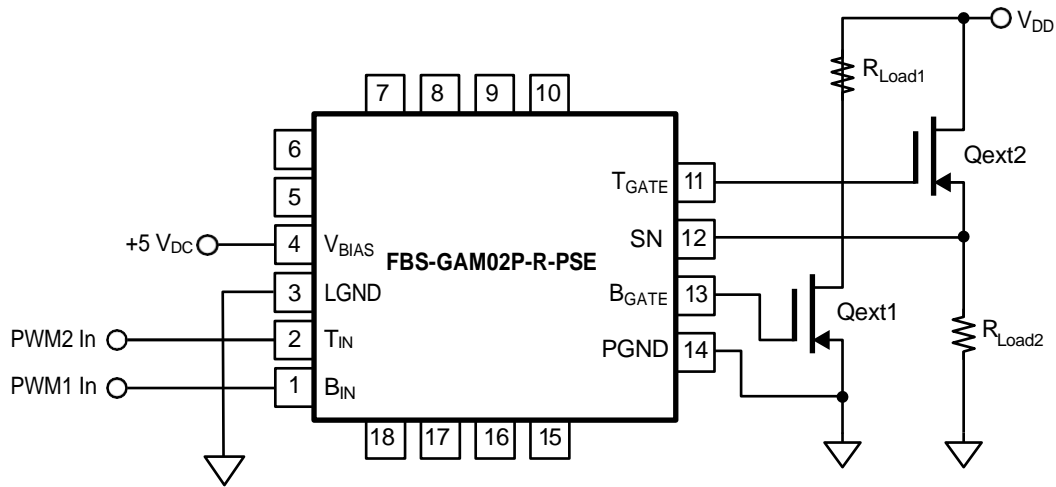

Figure 11. Independent High- and Low-Side Power Switches
The PG pin is an open drain logic-compatible output. For proper operation the PG pin must be pulled-up to V_{BIAS} , external to the module, with a 4.7 k Ω resistor. The FBS-GAM02P-R-PSE incorporates a Power Good (PG) sensing circuit that disables both internal (low- and high-side) gate drivers when the +5 V gate drive bias potential (V_{BIAS}) falls below the under-voltage threshold, UVLO-, or rises above the V_{BIAS} over-voltage threshold level, OVLO+ (please refer to Figure 5 for the proper operational nomenclature and functionality versus the state of the VBIAS power supply). During the time when the VBIAS potential is outside of the pre-set threshold(s), the PG output (Pin 5) pin is logic low (“0”). Alternatively, when the VBIAS potential is within the pre-set thresholds the PG pin is logic high (“1”). The logic condition of the PG pin may be sensed by an FPGA or Microcontroller/DSP in-order to determine when the power switches in the FBS-GAM02P-R-PSE may be driven with pulse-width modulated (PWM) input signal(s) at the BIN and TIN logic inputs. If either the under-voltage and over-voltage protection features are not required or desired, then these may be disabled by connecting the *SD (Pin 6) pin to VBIAS (pin 4) and/or the SD pin (Pin 7) to LGND (pin 3), as shown in Figure 11.